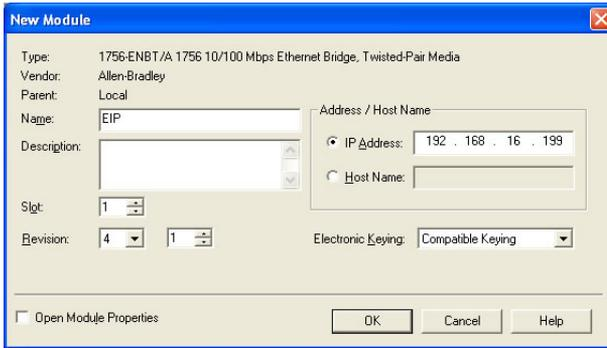

Figure 81: Configuring the New Module
- 6) The “New Module” window will open. Refer to Figure 81.